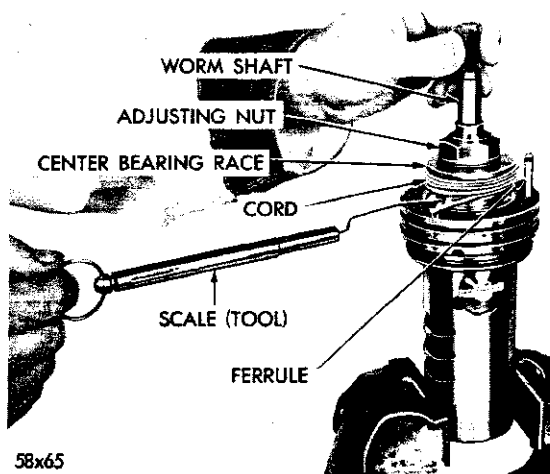

Fig. 44—Adjusting the Center Bearing Race Preload
(5) Loosen the adjusting nut. Place several rounds of cord around the center bearing race (Fig. 44). Make a loop in one end of the cord and hook the loop of a distributor breaker arm spring scale Tool MTU-36 in the cord loop. Pulling the cord will cause the